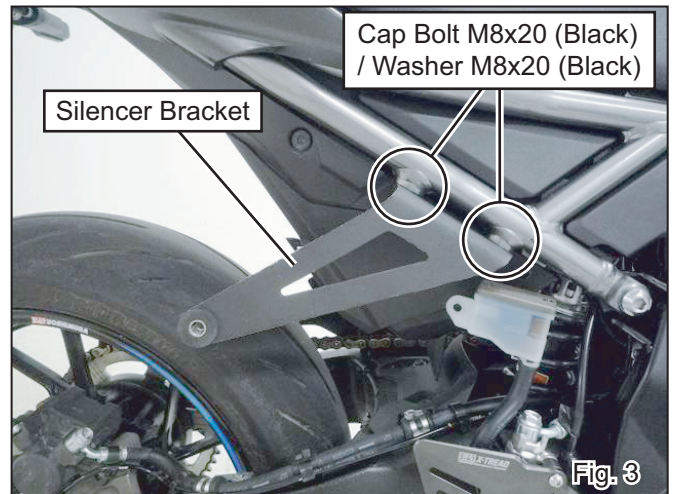

Fig. 3
- 5) Install Grommet Rubber and Grommet Spacer to Silencer Bracket. Then, mount Silencer Bracket on vehicle with 2 of each Cap Bolt M8x20 (Black) and Washer M8x20 (Black) (See Fig. 3). Tighten bolts with below specified torque.